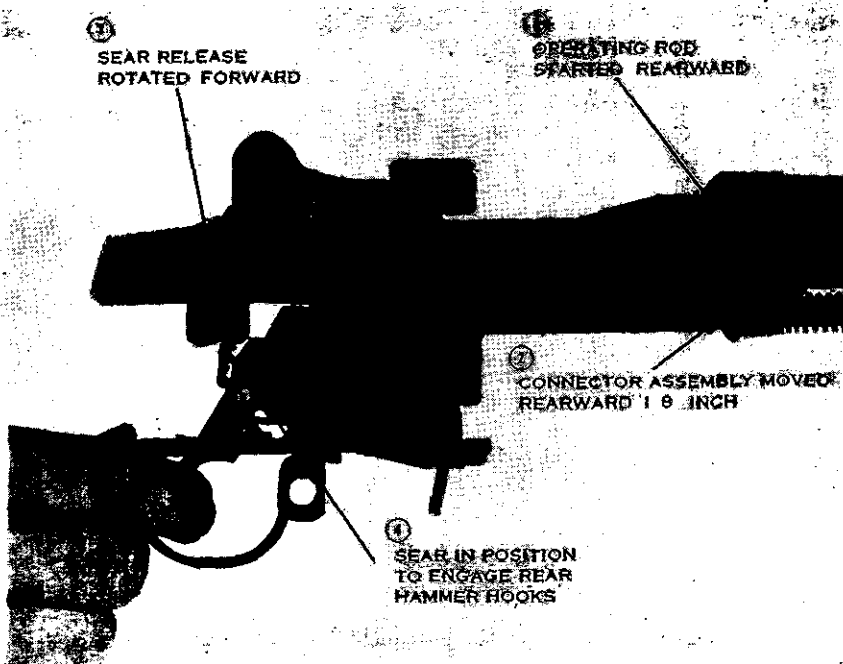

Figure 45. Effects of rearward movement of connector assembly.
b. After the first round has been fired (and with the trigger held to the rear), the operating rod starts its rearward movement under pressure of the expanding gases. As it moves to the rear, the connector assembly moves rearward one-eighth of an inch under pressure of the connector assembly spring. The movement of the connector assembly rotates the sear release on the selector shaft so that the flange on the sear release allows the sear to move forward into a position where it can engage the rear hammer hooks (fig. 45). Then, when the bolt drives the hammer to the rear, the sear engages the rear hammer hooks and holds the hammer in the cocked position.